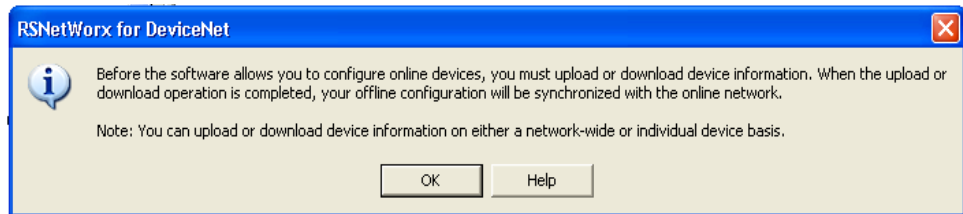

Figure 4-19: Confirmation Dialog Box
3. Click OK to continue. A dialog box like the one shown in Figure 4-19 will appear. Note that you may be asked to upload or download, depending on the version of software used.